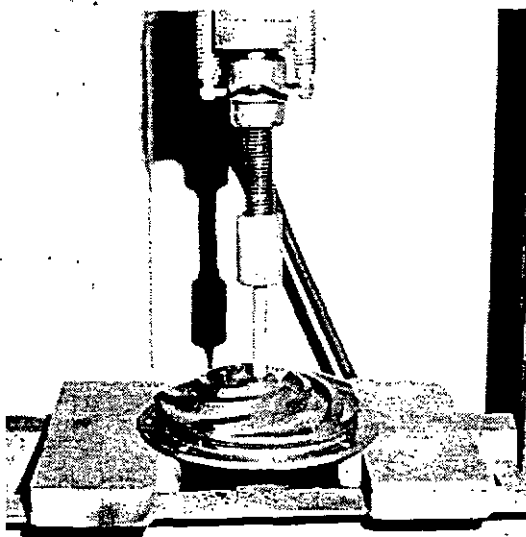

Figure 1. Impeller Removal
E. Place housing assembly (4) in arbor press with impeller (5) facing up, refer to figure 1. Press impeller shaft (9) through impeller (5) and from housing (8).